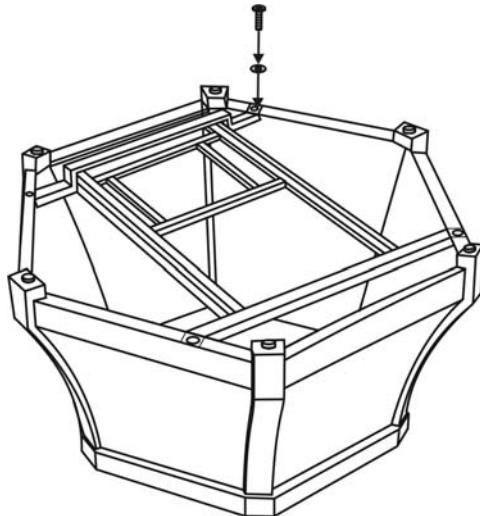

Figure 4
- 3.Attach the bottom frame (V) to the bottom frame (U) by using four 1/4"x25 mm bolts (O) and washers (Q) as shown in Fig 4. Guide bolts through holes in bottom frame, into pre-drilled holes in the bottom frame. Hand-tighten only.